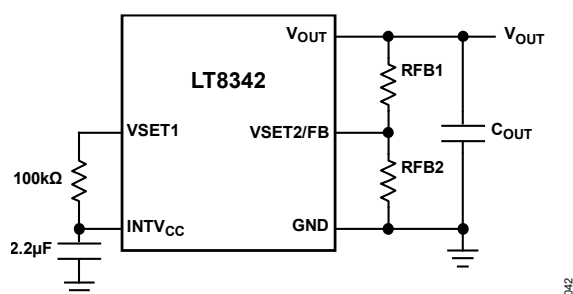

Figure 42. Simplified LT8342 External Feedback Configuration
The resistance in equation (3) refer to reference designators in Figure 42. The 1% resistors are recommended to maintain output voltage accuracy. When using large feedback resistors, a 4.7pF to 22pF phase-lead capacitor may be required from V_{OUT} to VSET2/FB. Note that when external feedback is used, if the fault occurs where VSET2/FB is short to ground, instead of producing an excessively high output voltage, as shown in Table 6, LT8342 will automatically switch to internal feedback with 19V output regulation.